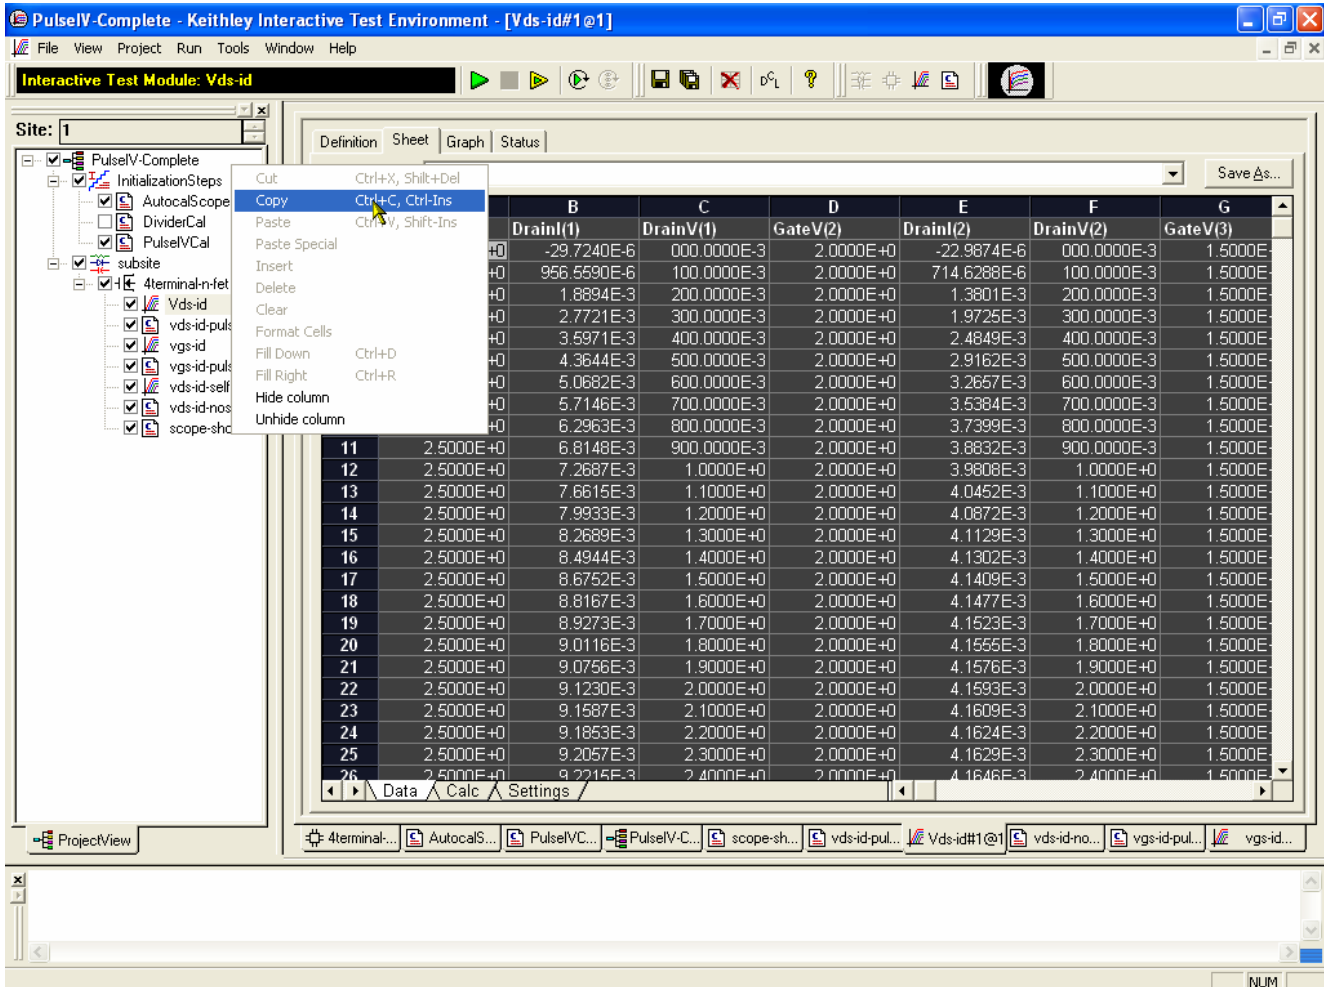

Figure 19. Copy data by right-clicking worksheet and select Copy.
5. Copy the data by right-clicking and choosing Copy, as shown in Figure 19, or use Ctrl-C.